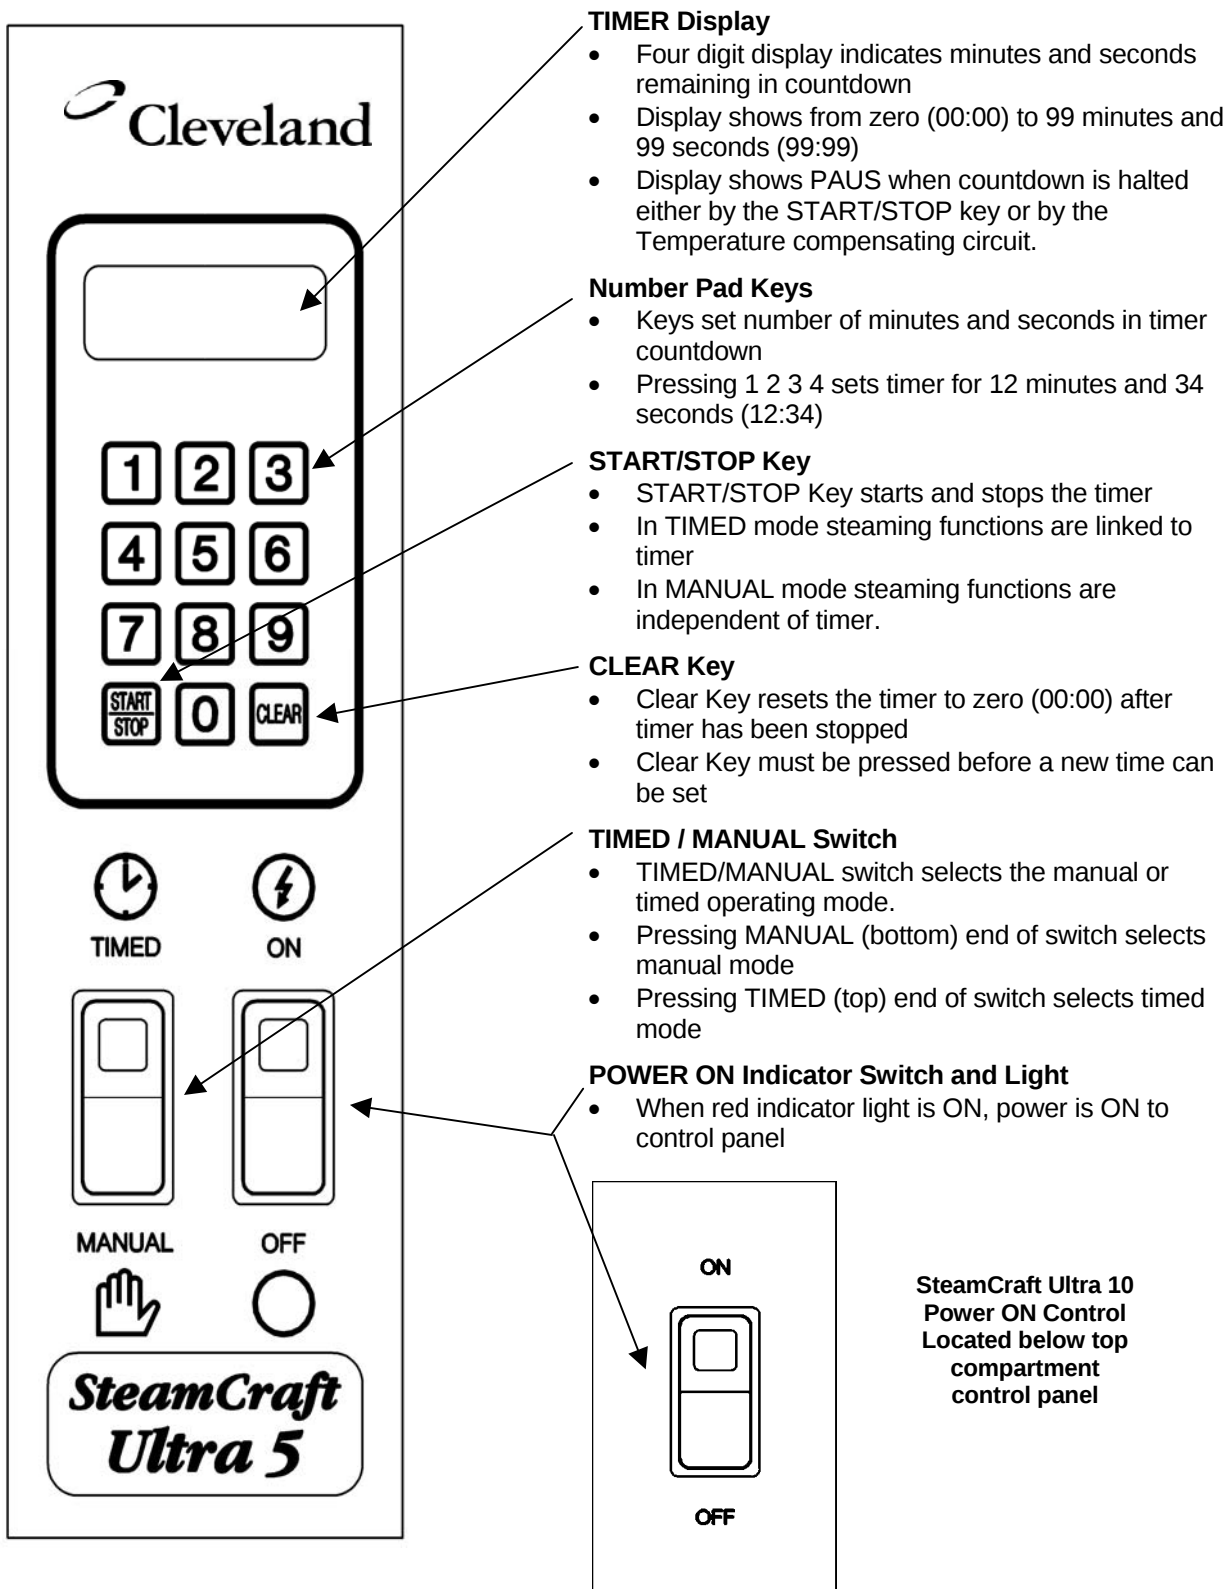

Figure 3-2 Keypad Control Panel
Optional electronic keypad timers are available (Figure 3-2)
- Be familiar with the control panel shown in Figure 3-2